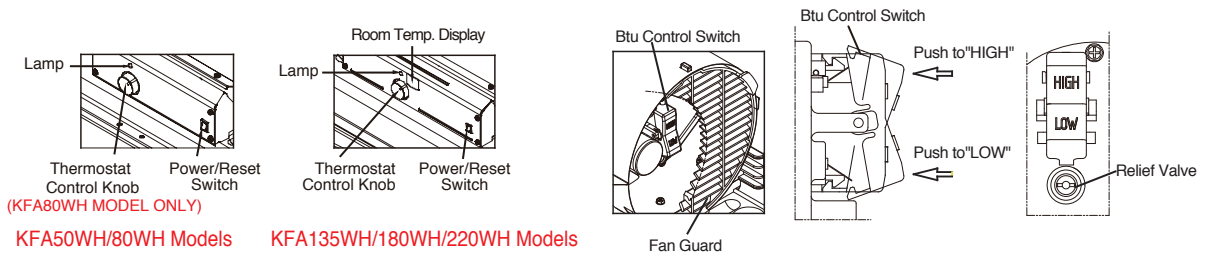

Figure 8. Controls for All Models
- 4) Position the Handles on top of fuel tank flange. Insert screws through handles, fuel tank flange and wheel support frames as shown in Figure 8 and attach nut finger tight after each screw is inserted.
5. Push “BTU control Switch” to “High” level. (See Figure 8.) (KFA180WH/220WH Models Only)